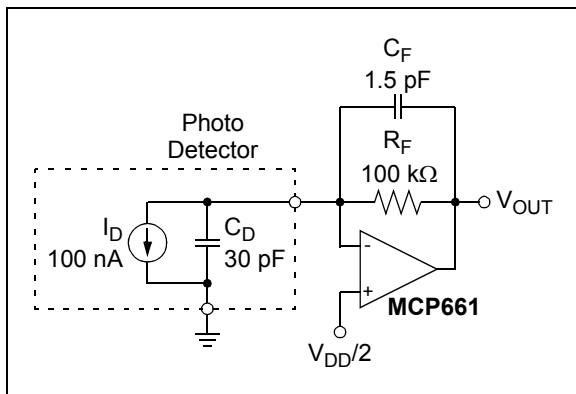

**FIGURE 4-10:** 50Ω Line Driver.
Differential gain (DG) and differential phase (DP) refer to the nonlinear distortion produced by an NTSC or a phase-alternating line (PAL) video component. The AC Electrical Specifications table and Figure 2-34 show the typical performance of the MCP661, configured as a gain of +2 amplifier (see Figure 4-10), when driving one back-matched video load ( $150\Omega$ , for  $75\Omega$  cable). Microchip tests use a sine wave at NTSC's color sub-carrier frequency of 3.58 MHz, with a  $0.286V_{P-P}$  magnitude. The DC input voltage is changed over a +0.7V range (positive video) or a -0.7V range (negative video).
Figure 4-10 shows the MCP661 driving a 50Ω line. The large output current (e.g., see Figure 2-18) makes it possible to drive a back-matched line ( $R_{M2}$ , the 50Ω line and the 50Ω load at the far end) to more than  $\pm 2V$  (the load at the far end sees  $\pm 1V$ ). It is worth mentioning that the 50Ω line and the 50Ω load at the far end together can be modeled as a simple 50Ω resistor to ground.